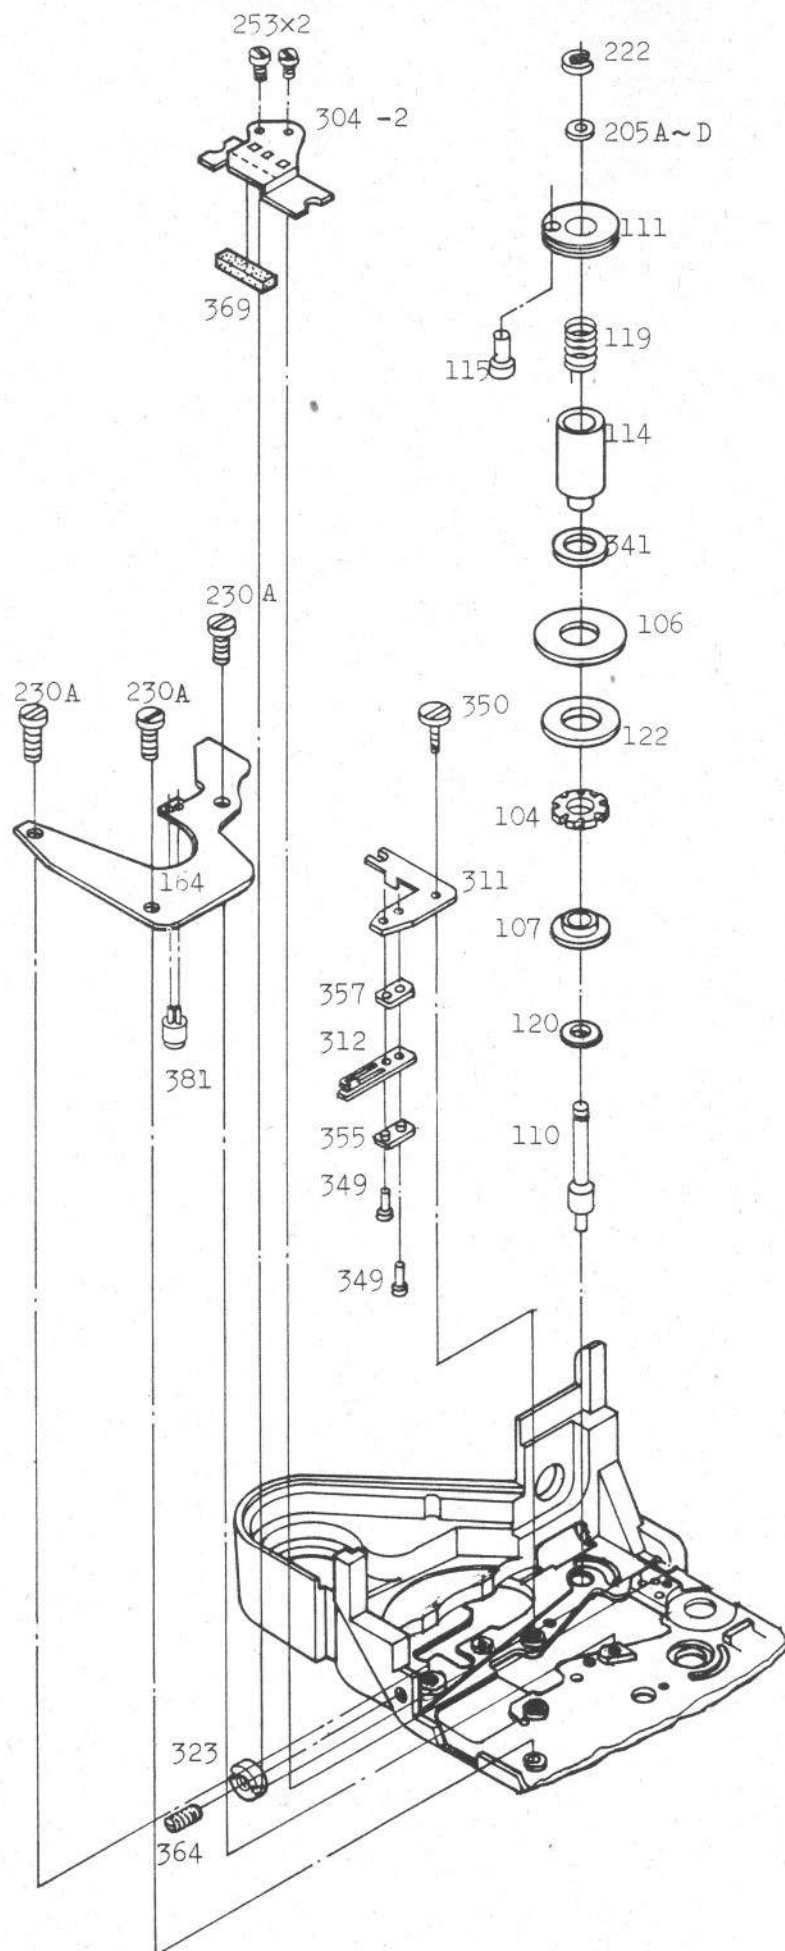

Fig. 4
7.2 T-film and F-figure (Fig.4 and Fig.6)
7. 2 Tフィルム, F文字 (Fig. 4, Fig. 6)